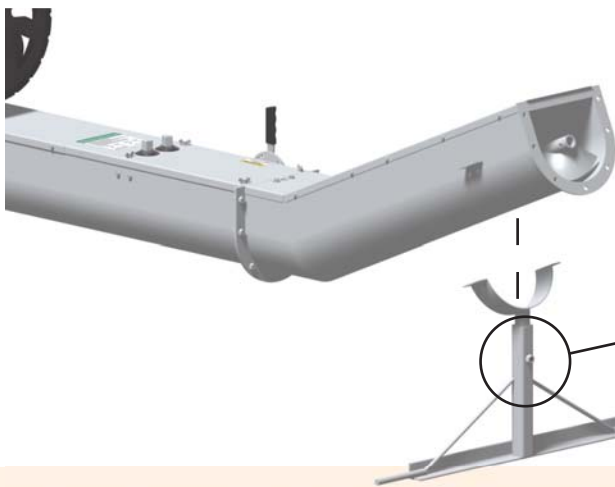

Figure 40
Place the Incline Stand up against the Incline Assembly. Adjust the Incline Stand so that it is set to the desired height. Place one (1) 1/2" x 1 1/2" Bolt into the Weldnut on the Bottom Incline Stand. Tighten it to lock the Top Incline Stand into position. (see **Figure 40**)